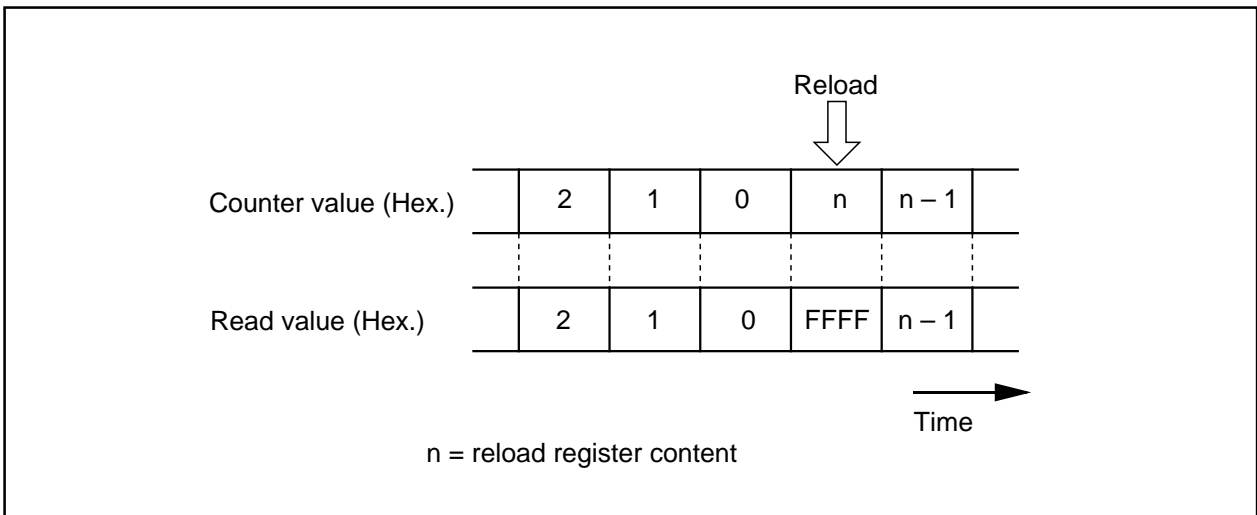

Figure 2.2.28. Reading timer Ai register
- (1) To clear reset, the count start flag is set to “0”. Set a value in the timer Ai register, then set the flag to “1”.
- (2) Reading the timer Ai register while a count is in progress allows reading, with arbitrary timing, the value of the counter. Reading the timer Ai register with the reload timing shown in Figure 2.2.28 gets “FFFF₁₆”. Reading the timer Ai register after setting a value in the timer Ai register with a count halted but before the counter starts counting gets a proper value.